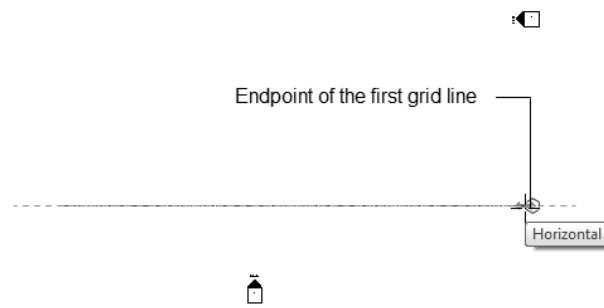

Figure 3-57 The location for the endpoint of the first horizontal grid line
4. On clicking, a grid line emerges. Move the cursor horizontally to the right and click when it reaches at a point below the **East** elevation arrow; refer to Figure 3-57 for location.